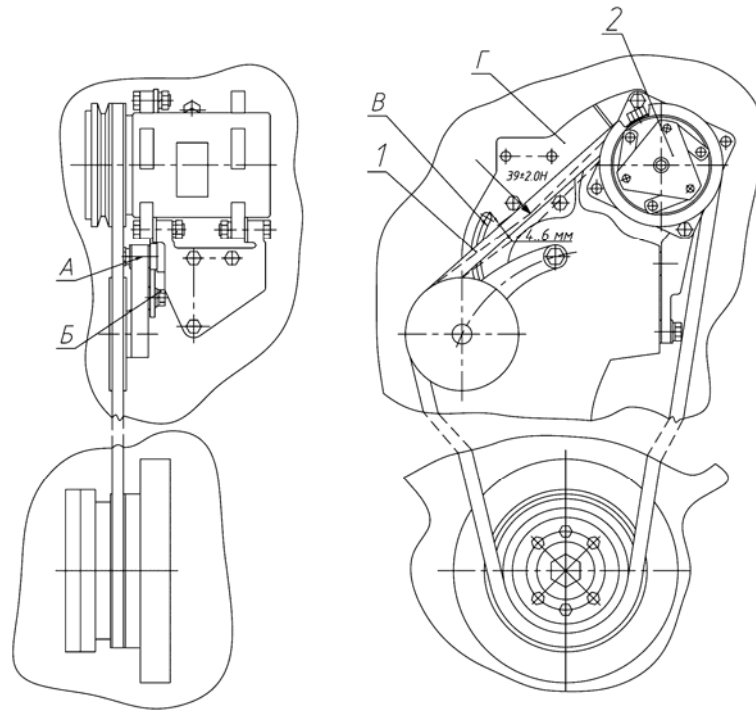

Figure 8.15 Check and adjustment of tension of the belt of air conditioner compressor drive of diesel MMZ.
Tension of belt 1 (figures 8.15, 8.16) of air conditioner compressor drive is considered normal if sag of its branch “engine crank shaft pulley – compressor pulley” measured in the middle is in the range of 4...6 mm upon application of force (39 ± 2.0) N perpendicular to middle of the branch.
Adjustment of belt tension (1) (figures 8.15, 8.16) must be made by turning compressor on rotation axle "A" and clamping threaded connection "B" in groove of sector "B". After adjustment of belt, sag upon effort of (39 ± 2.0) N, applied perpendicular to middle of branch must be within range from 4 to 6 mm.